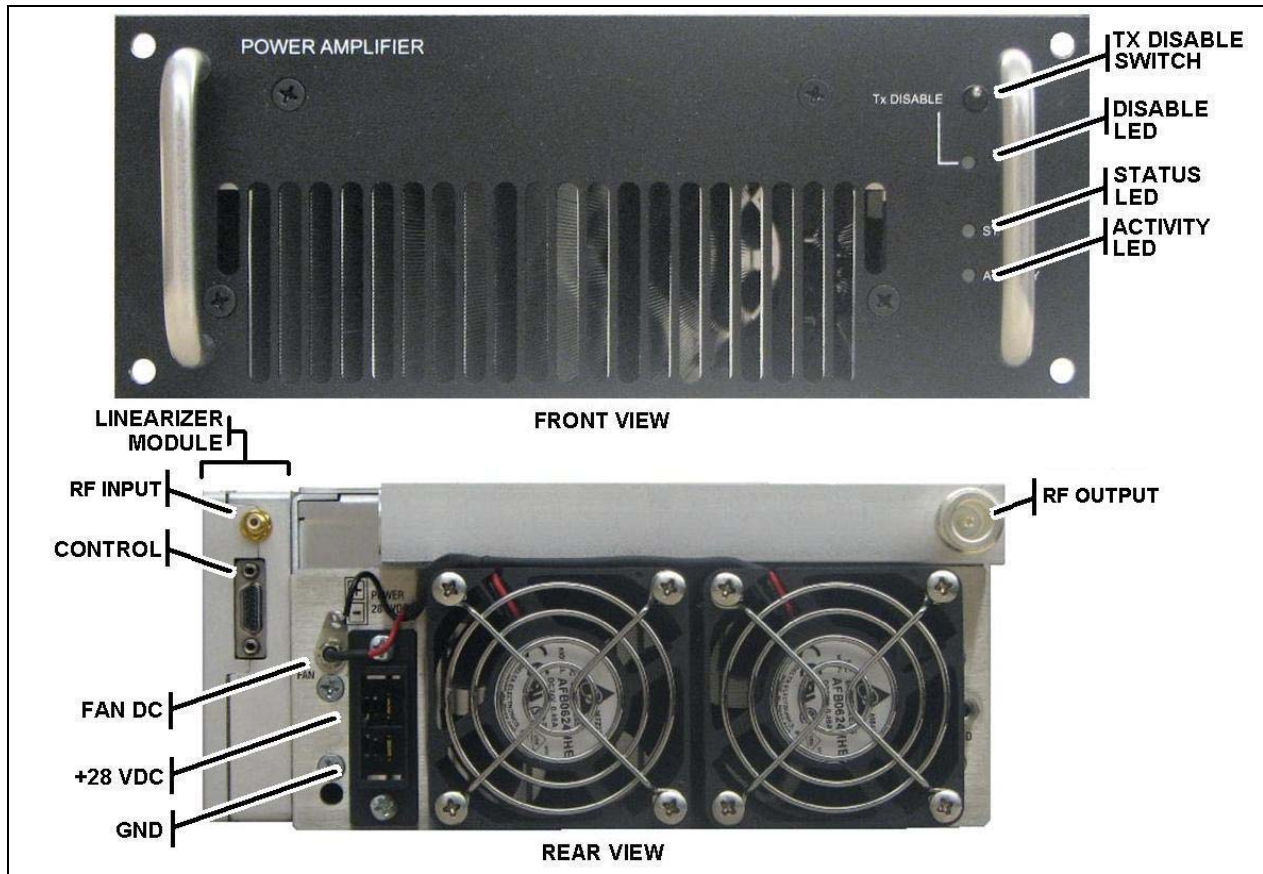

Figure 4-9: High Power Amplifier Module with Integrated Linearizer
The RF High Power Amplifier (HPA) assembly EA-555014 (shown in Figure 4-9), amplifies the exciter output to the rated station output power level. This module contains a power module, amplifier drivers and power control circuitry required for power amplification. It is currently available in the land mobile radio 800 MHz band.
The MASTR V Power Supply (PS) module EA-555011-001 (refer to Figure 4-9) is a continuous duty switching power supply. It operates from an input of 85 VAC to 265 VAC at 47 Hz to 63 Hz (1000 Watts maximum). The PSU provides a maximum of 875 Watts total output power divided among the following three (3) DC outputs: